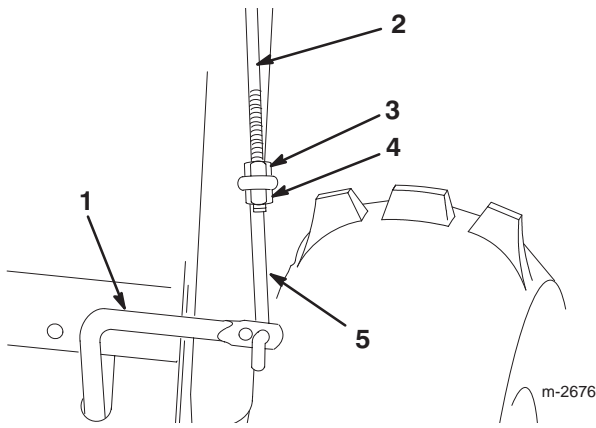

Figure 11
1. Thread a flange nut (flange side down) onto the upper control rod located on the right side of the handle assembly (Fig. 11).
- Install the lower link through the outer hole in the lower control rod as shown in Figure 11.
- Insert the upper control rod through the loop in the lower link (Fig. 11).
- Thread a flange locknut (flange side up) onto the bottom of the upper control rod below the loop in the lower link (Fig. 11).
- Adjust the flange nut and the flange locknut (Fig. 11), if necessary, to obtain the proper dimension between the top of the handgrip and the bottom of the auger/impeller drive control lever.